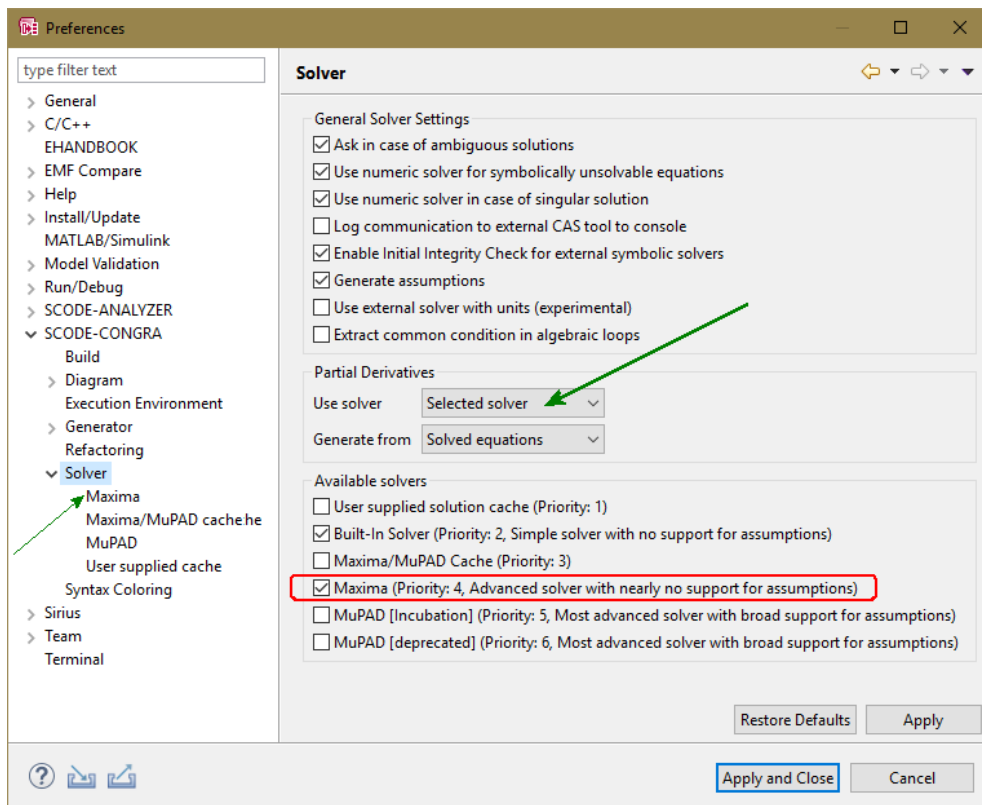

Figure 83. "Preferences" window with "Solver" settings for SCODE-CONGRA
3. In the "Use Solver" combo box (large arrow in Figure 83), select Selected Solver.
6. Configure the Maxima installation directory in the "Maxima" subnode (small arrow in Figure 83).